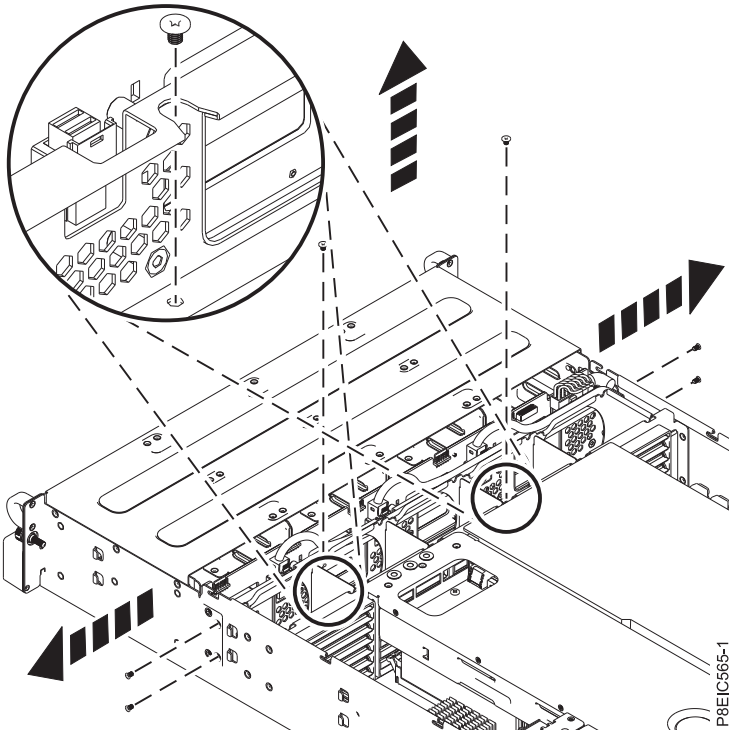

Figure 26. Removing the disk drive backplane screws
7. Remove two screws from the bottom of the disk drive backplane as shown in Figure 26 on page 24.
8. Remove two or four screws that secure the disk drive backplane, as shown in Figure 26. The one or two screws that must be removed are located closer together on the each side of the chassis; ensure that you remove the indicated screws.